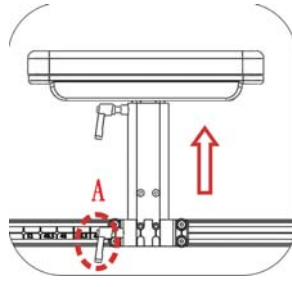

Figure 5-53
5.3.4.2.2 The whole armrest assembly can be removed by releasing lever A. (Figure 5-53)